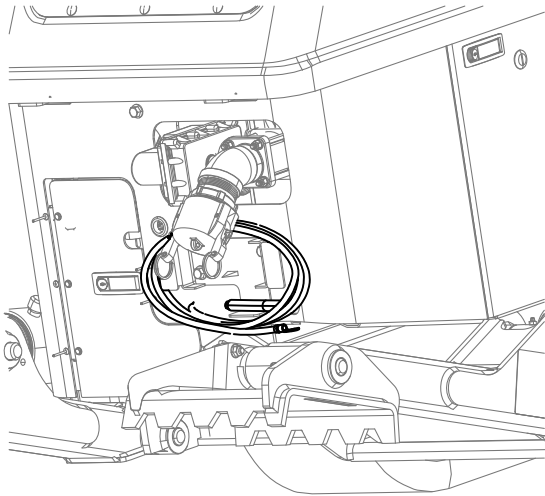

Figure 49
1. Remove the ground cable from its storage position at the rear of the machine (Figure 49).
9. Store the grounding stake in the holder at the rear of the machine (Figure 49).